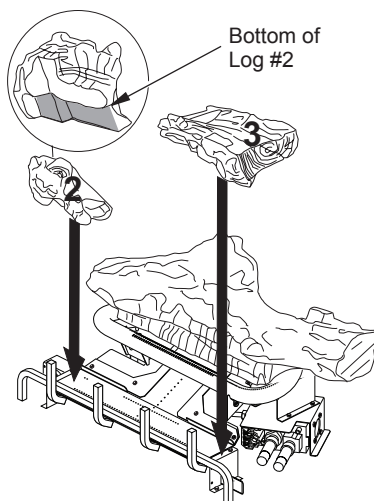

Figure 33 - Installing Logs #2 and #3
2. Place left bottom log (#2) onto base assembly as shown in Figure 33, page 20. See detail in drawing for contour on bottom of log. Log will fit over metal brackets and flat onto base assembly
3. Place right bottom log (#3) onto pan burner as shown in Figure 33, page 20.